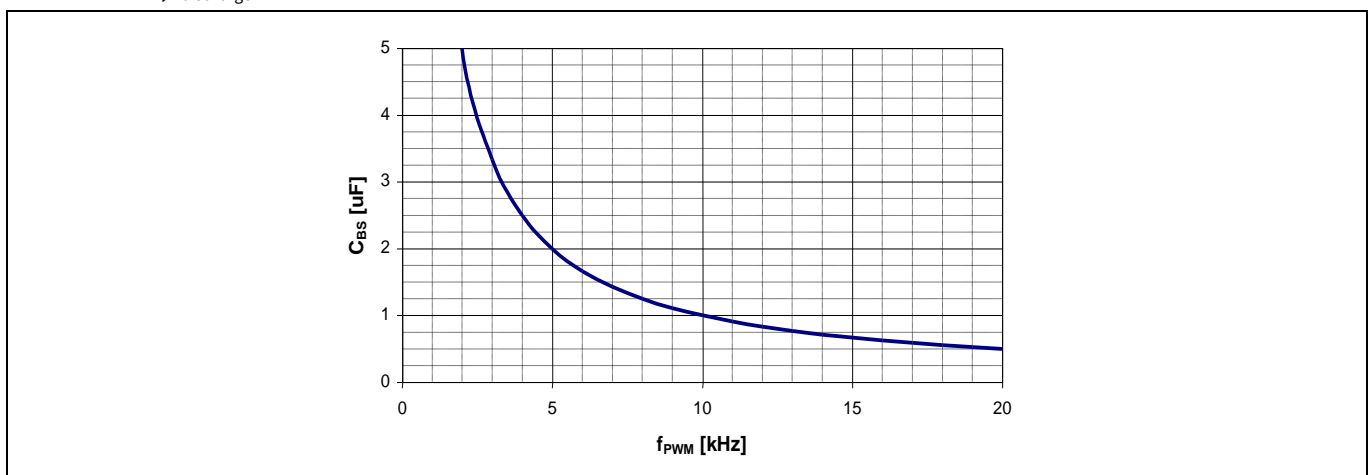

Figure 31 Bootstrap capacitance as a function of the switching frequency
Figure 31 shows the curve corresponding to equation (5) for a continuous sinusoidal modulation, if the voltage ripple ΔV_{BS} is 0.1 V. The recommended bootstrap capacitance for a continuous sinusoidal modulation method is therefore in the range of up to 4.7 μF for most switching frequencies. In other PWM method cases such as discontinuous sinusoidal modulation, the t_{charge} must be set at the longest period of the low-side IGBT off.